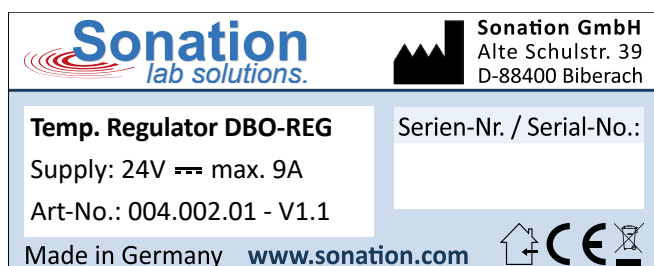

Fig. 9: Type plate: Sonation Regulator
- Mount the left camera holder with the supplied M5x20 screws and the spacer block as shown in Fig. 9.